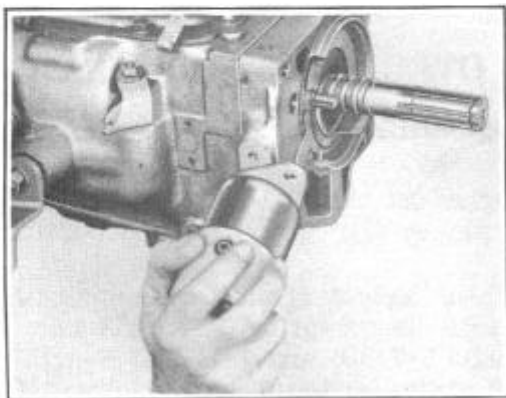

FIGURE 17
7. Remove the solenoid attaching screws, turn the solenoid one-quarter turn clockwise and remove, Figure 17.
3. Install the solenoid by turning the solenoid counter-clockwise one quarter turn, Figure 17, but before installing the cap screws, pull straight out on solenoid. If solenoid can be pulled out, the bolt at the end of the solenoid rod was improperly installed (not locked in the pawl). Install lock washers and cap screws and tighten securely.
3. Install the solenoid by turning the solenoid counter-clockwise one quarter turn, Figure 17, and before installing the cap screws pull straight out on solenoid. If the solenoid can be pulled out, the ball at the end of the solenoid rod was improperly installed (not locked in the pawl).